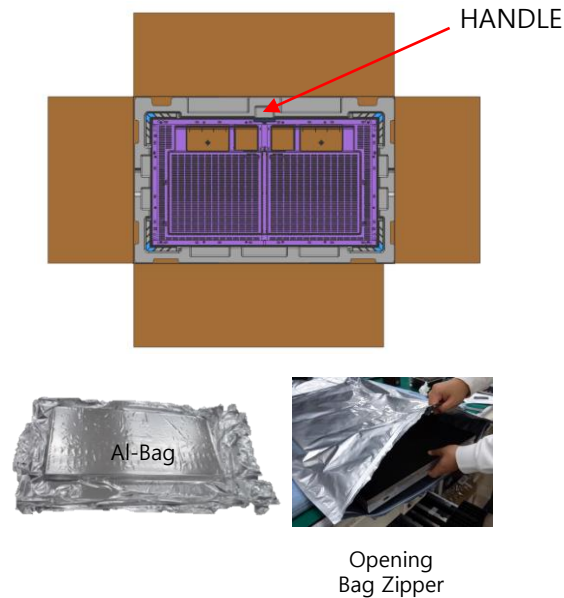

Fig. 2 Opening up and Al-Bag Removal
- ① Remove the Box tape at the upper area and then open up the box. (Fig.2)
- ② Remove the Top-Cushion and cut out Vacuum bag, and pull out the set. (Fig.2)